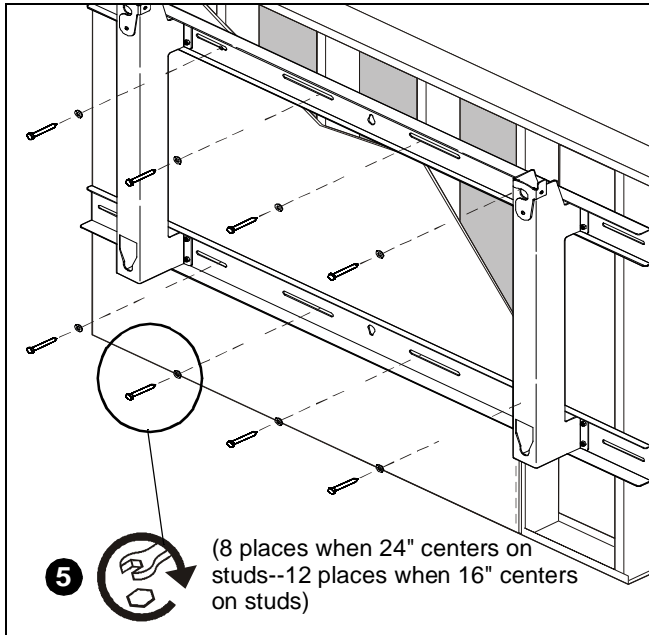

Figure 3
- Secure mount to studs using 5/16 x 2-1/2" lag screws [not included] and 5/16" flat washers [not included] (8 if 24" center studs and 12 if 16" center studs). (See Figure 3)